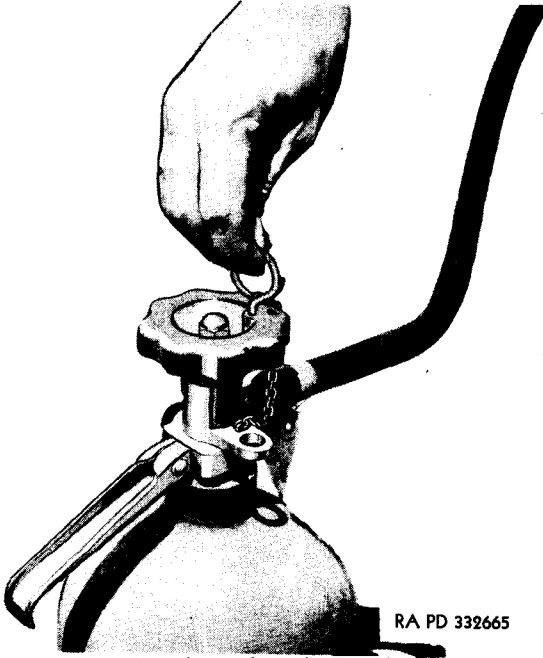

Figure 15—Pulling Fire Extinguisher Lock Pin
- (1) Remove extinguisher from side of vehicle. To do this open both clamps, and lift out extinguisher.
- (2) Pull lock pin (fig. 15). Keep in vertical position.
- (3) Carry extinguisher to the fire then open valve. Keep extinguisher erect.
- (4) Carry extinguisher with left hand. Hold nozzle at hose end of handle with other hand.
- (5) Direct discharge close to fire.
- (6) Direct discharge first at edge nearest operator, or if on vertical surface, at bottom of fire.